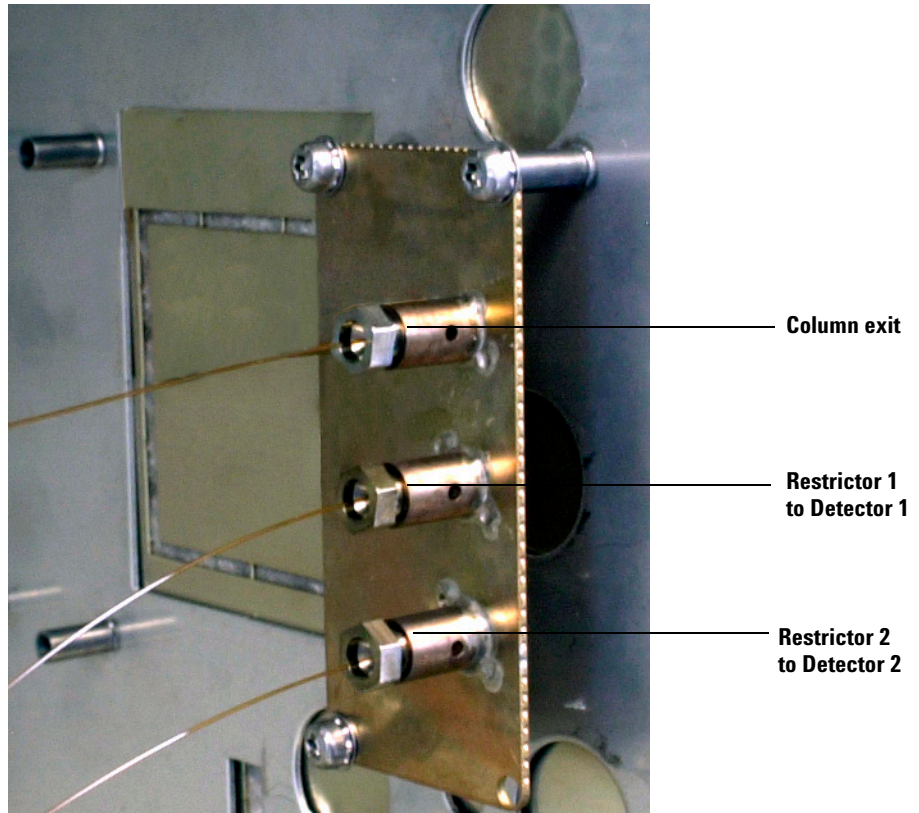
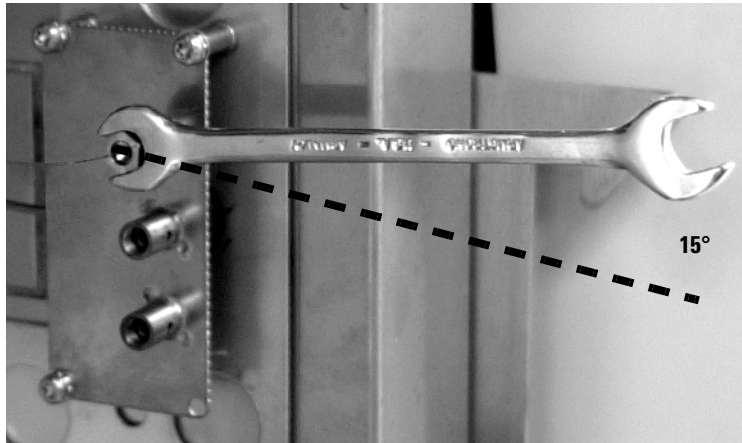

Figure 21 Restrictor and column connections
Figure 22 Tightening the connections
- 1 Connect the restrictor tubing to the connectors on the splitter (Figure 21). Finger-tighten until just snug, then tighten with a wrench an additional 15 degrees (Figure 22). Install the back detector’s restrictor first.
Do not overtighten the fittings. The dashed line in Figure 22 (about 15 degrees clockwise from finger-tight) is usually enough.